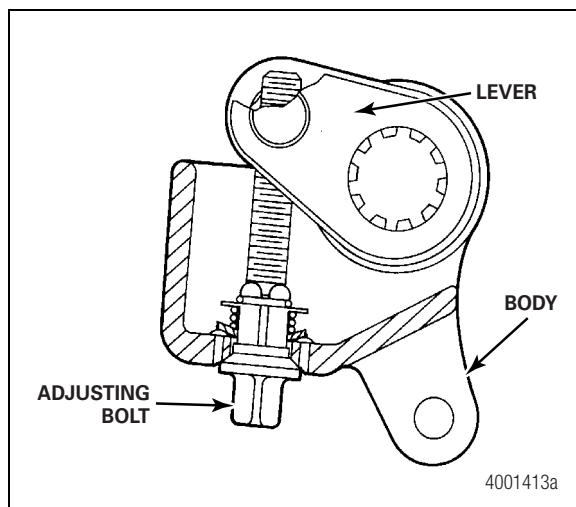

Figure 5.25
5. If the clearance is more than 0.012-inch (0.30 mm), turn the adjusting bolt adjusting lever until the clearance is correct. Figure 5.25.